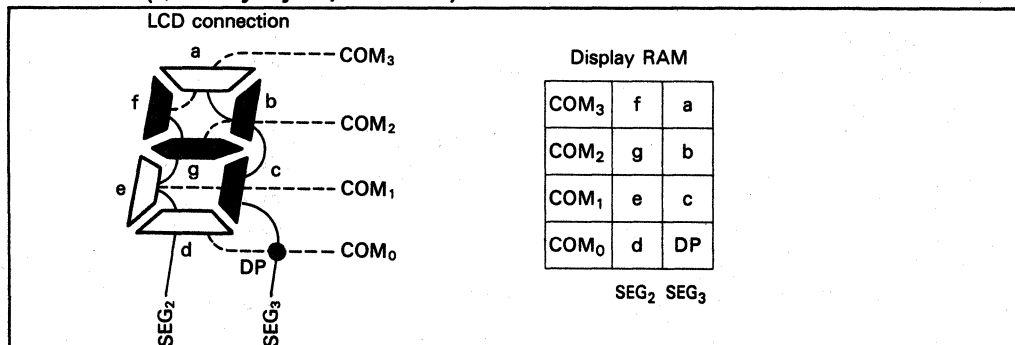

Figure 7 Example of Correspondence between LCD Connection and Display RAM (1/4 Duty Cycle, HD61604)
4. **1/4 Duty Cycle Drive:** In the 1/4 duty cycle drive, all the columns of COM₀ to COM₃ are displayed (figure 7).